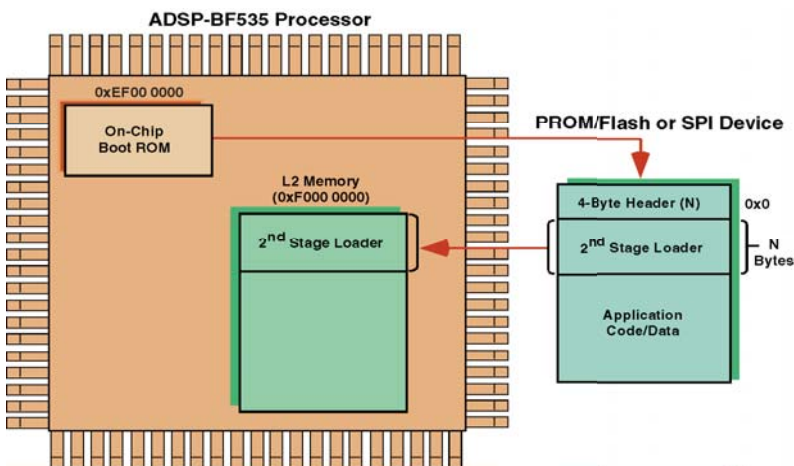

Figure 3-9. ADSP-BF535 Processors: Booting With Second-Stage Loader
1. Upon reset, the on-chip boot ROM downloads  $N$  bytes (the second-stage loader) from external memory to address 0xF000 0000 in L2 memory (Figure 3-9).